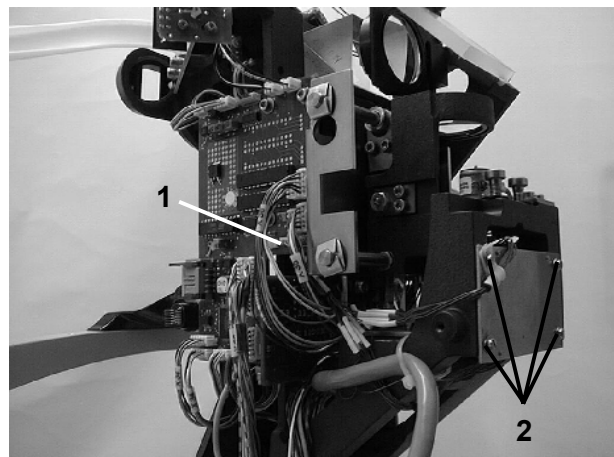

Fig. 20
- Disconnect plug-in connection ((1) Fig. 20).
- Remove four screws ((2) Fig. 20) and then the CCD camera. Remove the cable clamp from the camera cable.
- Attach a cable clamp. Insert the CCD camera and tighten screws ((2) Fig. 20) slightly.
- Re-establish plug-in connection ((1) Fig. 20).
- Move the CCD camera in such a way that the crosshairs of the display and the reflection from the cornea exactly coincide. Slightly tighten screws ((2) Fig. 20).
- Select the KER mode and check whether the horizontal measurement markings of the keratometer are exactly parallel to the horizontal line of the crosshairs. If necessary, turn the CCD camera as required (take care not to change the lateral and vertical position of the camera). Tighten screws ((2) Fig. 20). Make sure that the camera is not moved in the process.